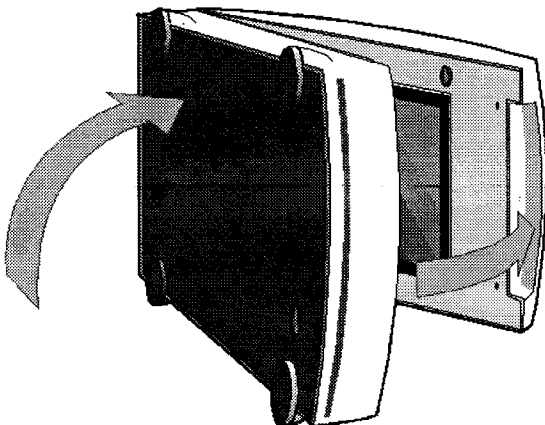

Fig. 2.4 Turning the densitometer on its side and opening the transparency module.
4. Turn the densitometer on its side and open the transparency module (Figure 2.4).